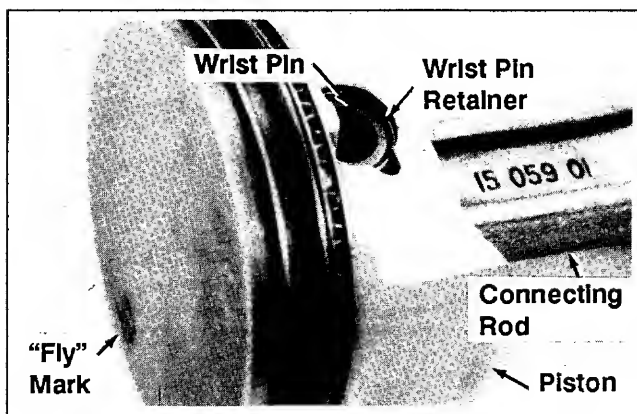

Figure 11-3. Installing Piston
1. Assemble the piston, connecting rod, wrist pin and wrist pin retainers. See Figure 11-3.